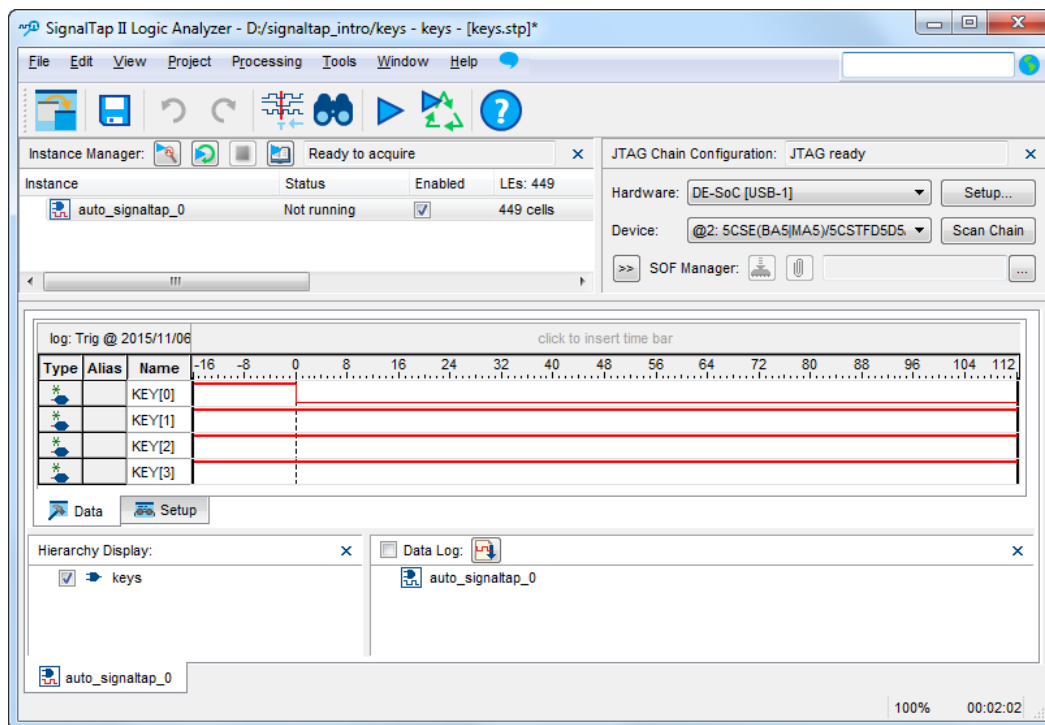

Figure 13. Graphical display of values after trigger condition is met.
3. Now, to observe the trigger feature of the Logic Analyzer, press and hold Key 0 on the DE-series board. The data window of the SignalTap II window should display the image in Figure 13. Note that this window shows the data levels of the 4 nodes before and after the trigger condition was met. As an exercise, unpress Key 0 then click Run Analysis again. Hold down any of Keys 1-3, then press Key 0. When Key 0 is pressed, you will see that the values of Keys 1-3 displayed on the SignalTap II Logic Analyzer match what is being pressed on the board.